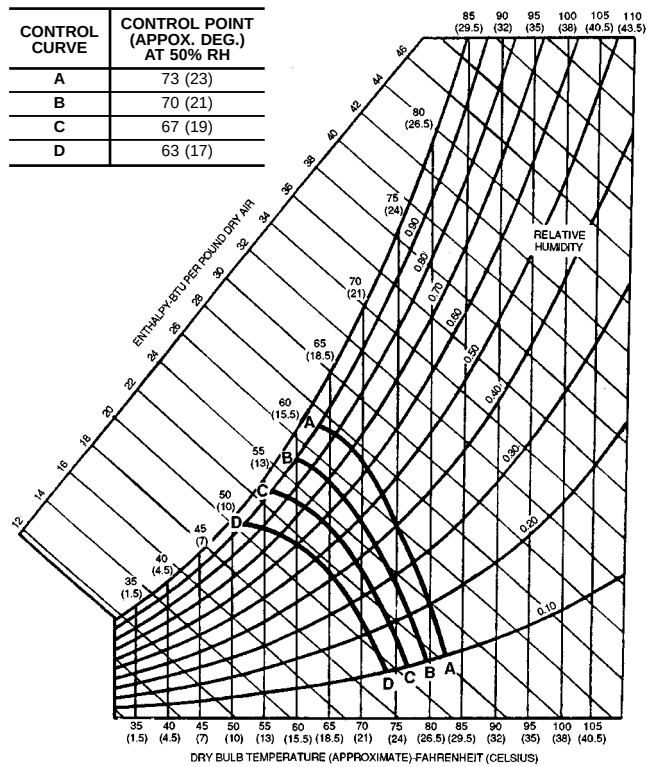

Fig. 23 — Enthalpy Settings for PARABLADE Economizer
8. Determine the enthalpy changeover set point from Fig. 23. The enthalpy changeover set point should be set to return the outdoor air damper to the minimum position when enthalpy rises above the set point. The settings are A, B, C, and D. Set the enthalpy changeover per the setting in Fig. 23.